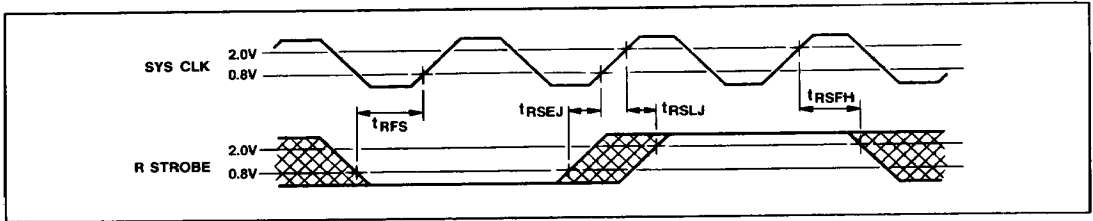

Fig.8 Timing - receive strobe
**Digital Switching Characteristics - Receive Strobe and Clock (see Figs. 8 and 9)**